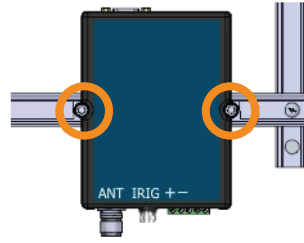

Figure 8 Install SEL-2401
Step 13. Attach the SEL-2401 to the channel nuts with the socket head cap screws. See *Figure 8*.